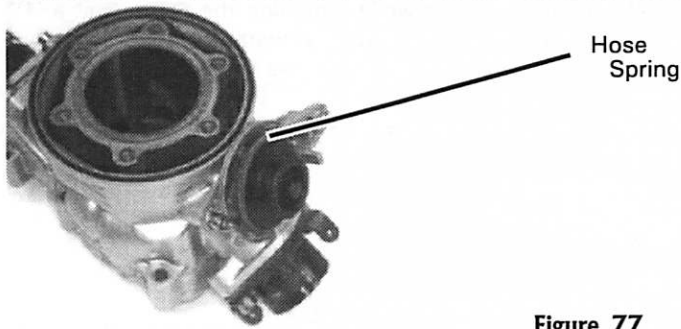

Figure 77
7. Screw the exhaust valve piston onto the exhaust valve rod until it bottoms out. Then install the hose spring (Figure 77) to secure the boot to the exhaust valve piston.